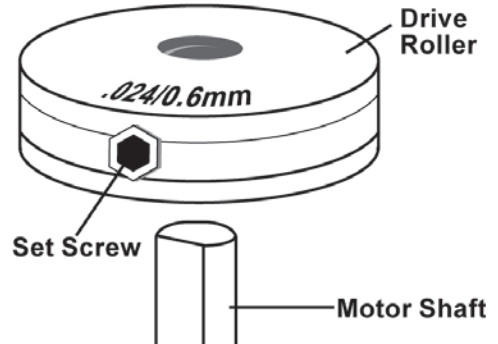

Figure 5. Drive Roller
4. Find the side of the drive roller that is stamped with the same wire diameter as that of the wire being installed (see Figure 5). Push the drive roller onto the motor shaft, aligning the set screw with the flat side of the drive shaft. Make sure